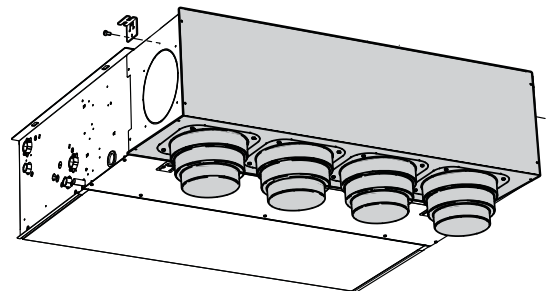

Fig.13
- Use cutting nippers to remove the four junction points of the sheet metal push-out element (fig.13)